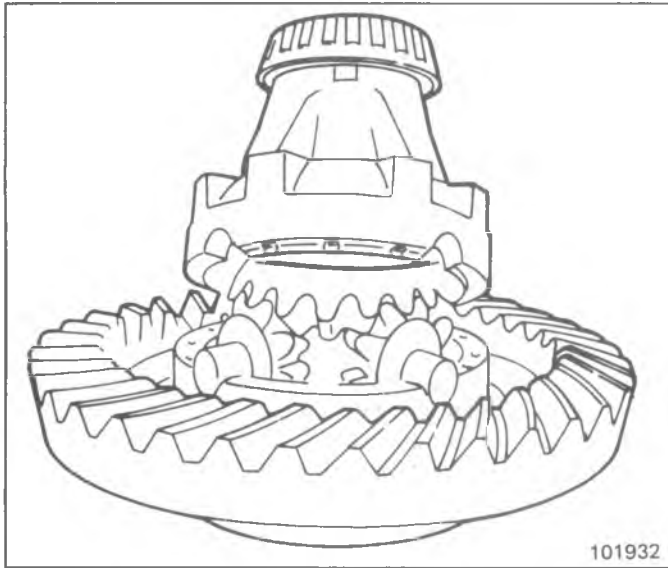

Fig. 4B5-22--Align Marks
2. Insert checking tool (made from splined axle shaft end) into differential nest. Allow splines of tool to engage with spline of one side gear only (Fig. 4B5-23).
3. Using a suitable socket and torque wrench, rotate differential nest while observing scale on torque wrench (Fig. 4B5-24).